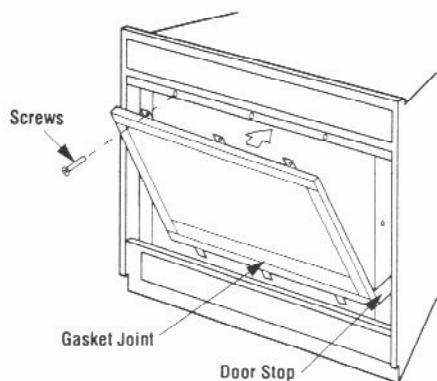

Figure 44
Position the door frame in front of the firebox opening, with the joint in the gasket down (Figure 44). Locate the three (3) tabs at the bottom edge of the door frame into the three (3) brackets at the base of the fireplace front opening. Lean the door frame back towards the firebox ensuring that the gasket seats evenly as the door frame draws shut. Install the three (3) ¼"-20 x 1" Phillips pan head screws removed previously and tighten to secure. Ensure that the tab on the bottom of the door frame engages the door switch.